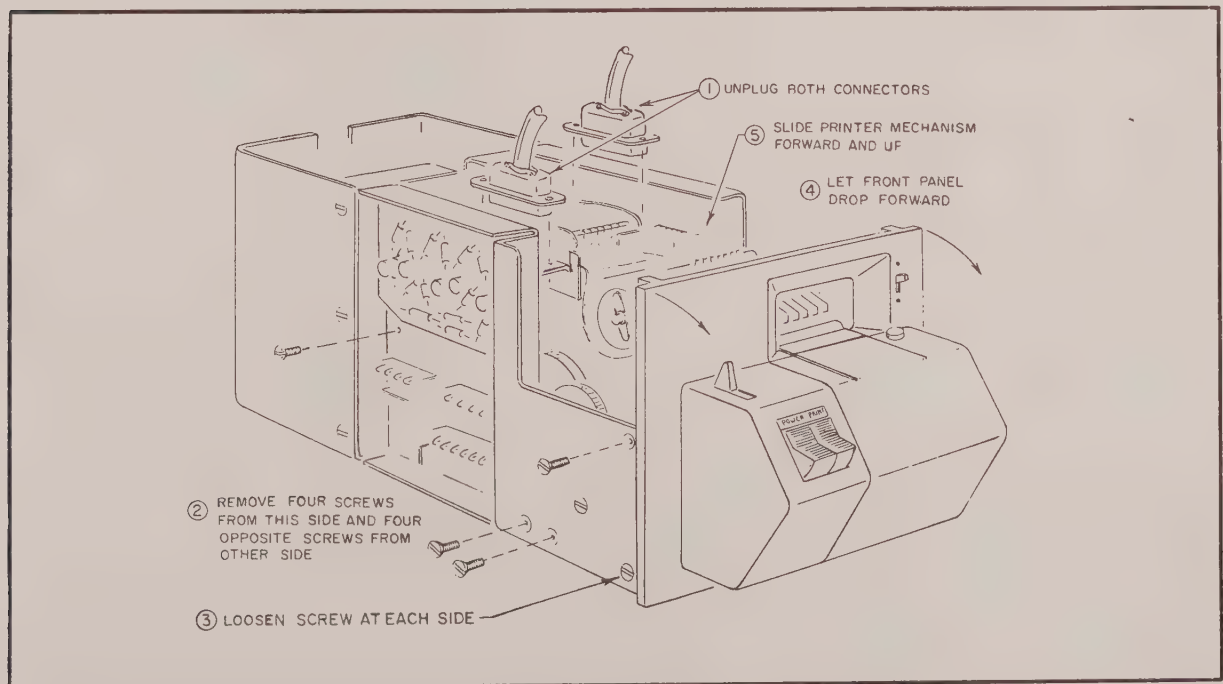
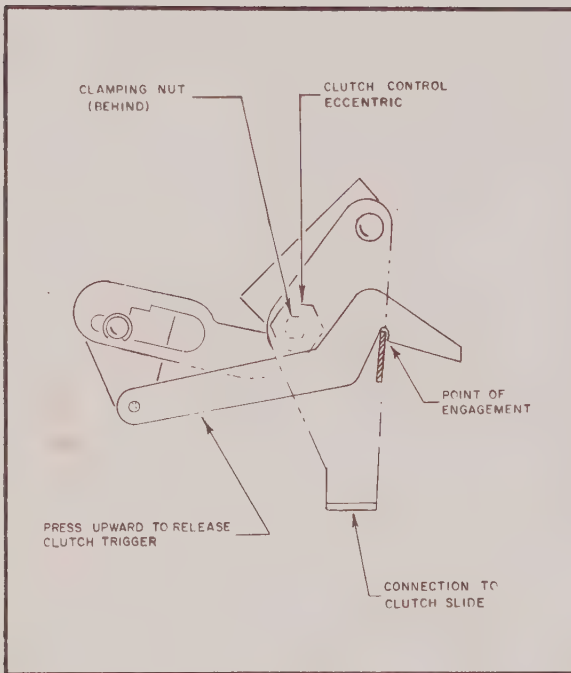

FIG. 4-1. Removing Printer Mechanism.
FIG. 4-2. Adjusting Clutch Control Eccentric.
For most of the mechanical servicing procedures described in this section, you will need to remove the printer mechanism, as shown in Figure 4-1.
- 1) After removing the mechanism (Figure 4-1), turn the left side of the printer toward you. Between the side plate and the pawl magnet assembly you will find the mechanical trigger shown in Figure 4-2.
- 2) Press upward the lever indicated in Figure 4-2. The clutch will then engage.
Clutch Control Eccentric	When a single print command produces more than one cycle of operation, the clutch control eccentric may be out of adjustment (as indicated in Table 4-1). - Manually operate printer through one cycle until clutch slide has moved to its most rearward position (Fig. 4-2). - Loosen clamping nut. - Turn eccentric so that clutch trigger engages with a minimum of overtravel of clutch slide. (Movement of slide from its extreme position to its normal cocked position should be less than 0.030 inches.)